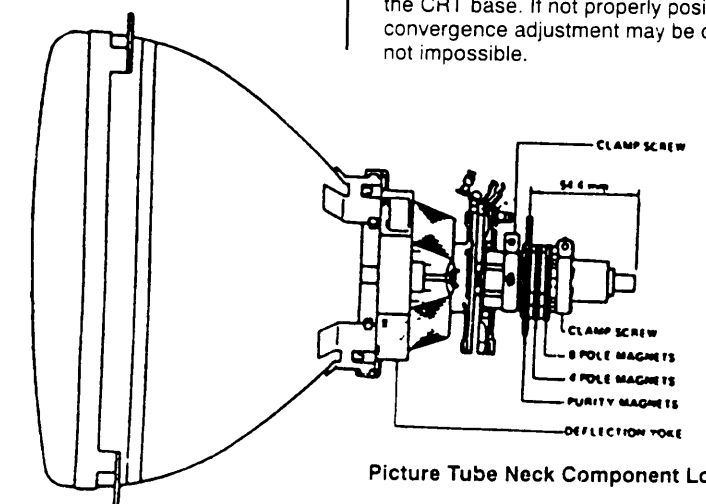

Fig 5.
- 1: Check for correct location of all neck components (refer to fig. 5).
(refer to fig. 5 & 6)
Important: Before proceeding check location of the convergence magnet assembly on the neck of the CRT as shown in fig. 5. The rear edge of this assembly must be positioned an inch from the tip of the CRT base. If not properly positioned convergence adjustment may be difficult if not impossible.